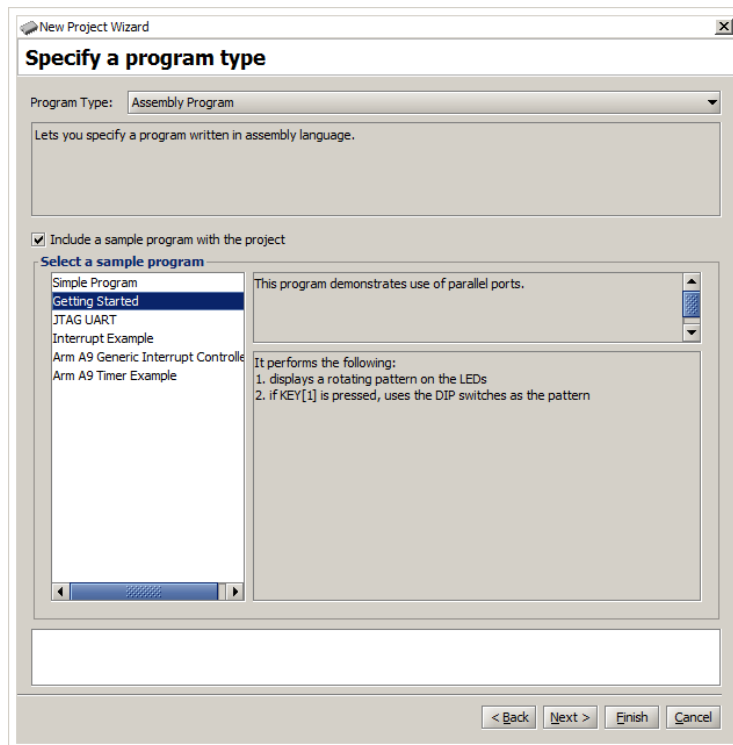

Figure 4: Selection of an application program.
4. In the window in Figure 4 you can specify the type of application programs that you wish to run. They can be written in either assembly language or the C programming language. Specify that an assembly language program will be used. The Altera Monitor Program package contains several sample programs. Select the box **Include a sample program with the project**. Then, choose the *Getting Started* program, as indicated in the figure, and click **Next**.
1. Create a new folder for this part of the exercise, with a name such as *Part2*. Create a file named *part2.s* and enter the code from Figure 9 into this file. Use the Monitor Program to create a new project in this folder; we have chosen the project name *part2*. When you reach the window in Figure 4 choose **Assembly Program** but do not select a sample program. Click **Next**.